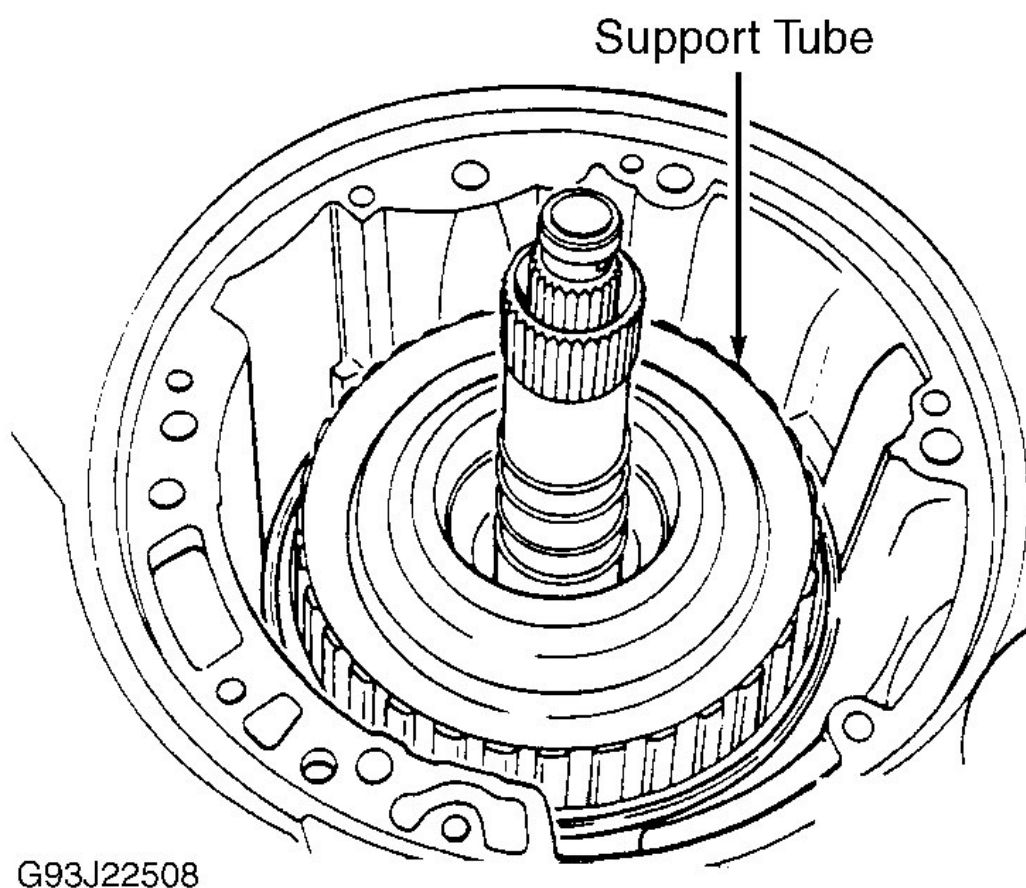

Fig. 76: Installing Support Tube
7. Install bearing, washer, and impeller shaft and 3rd-4th apply clutch. See **Fig. 74** . Install bearing, washer and 1st-3rd apply clutch with turbine shaft assembly. See **Fig. 75** . Install thrust shims on 1st-3rd apply clutch housing. Install reverse apply clutch and support tube. See **Fig. 76** .